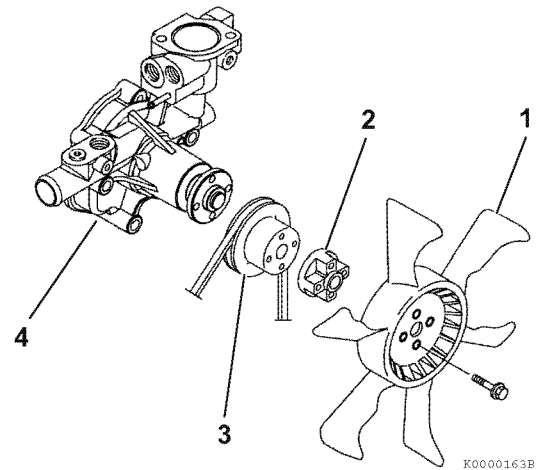

Figure 8-6
6. Remove the engine coolant fan guard (if equipped), engine coolant fan (Figure 8-6, (1)), spacer (Figure 8-6, (2)) and engine coolant pump V-pulley (Figure 8-6, (3)).
8. Remove the engine coolant pump (Figure 8-6, (4)). Discard the gasket.